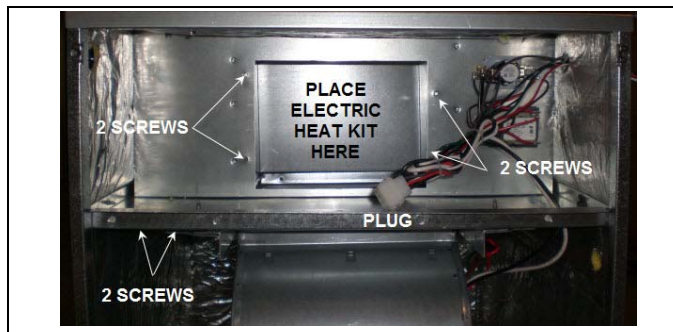
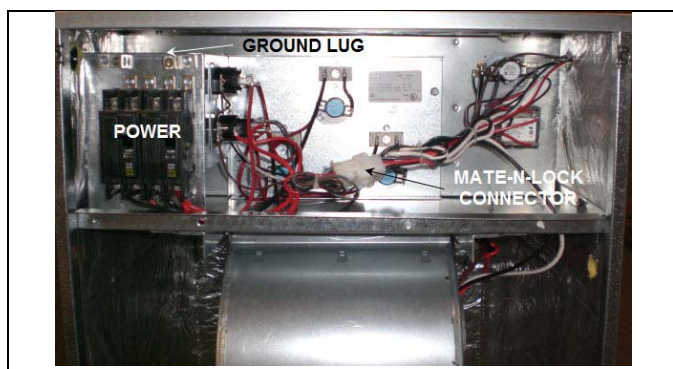

FIGURE 2:
FIGURE 3:
4. Unplug the Mate-n-Lock connector (Refer to Figure 3) and Remove block-off plate or existing heater kit from air handler by removing 6 screws. See Figure. 2.
6. Insert power leads into the circuit breaker lugs or terminal block and tighten. See Figure. 3.
7. Connect ground wire to ground lug. See Figure. 3.